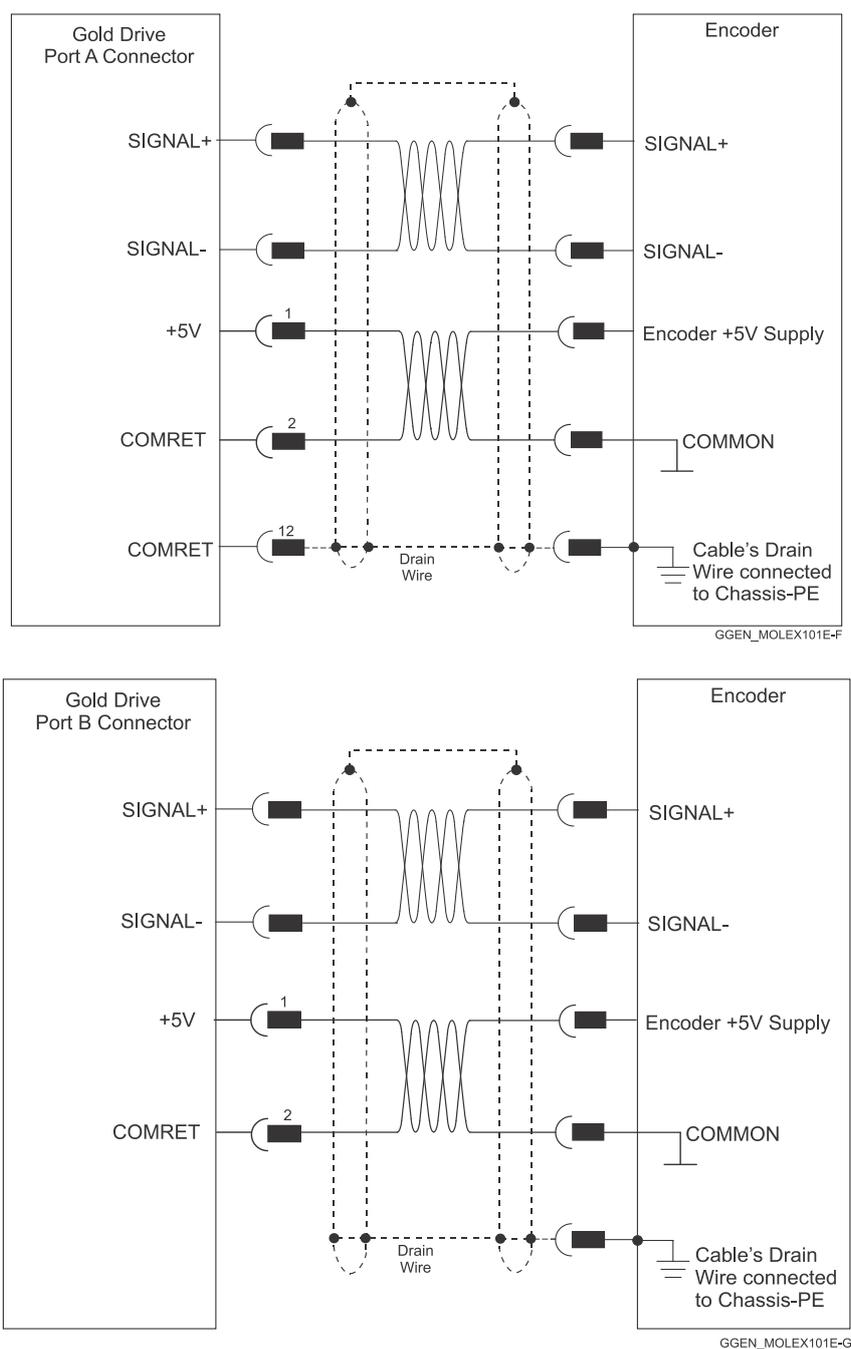

Figure 5: Feedback Port A and B Cable Assemblies
- a. At the drive, connect the feedback drain wire to one of the COMRET terminals in the shrouded feedback connector (Figure 5).